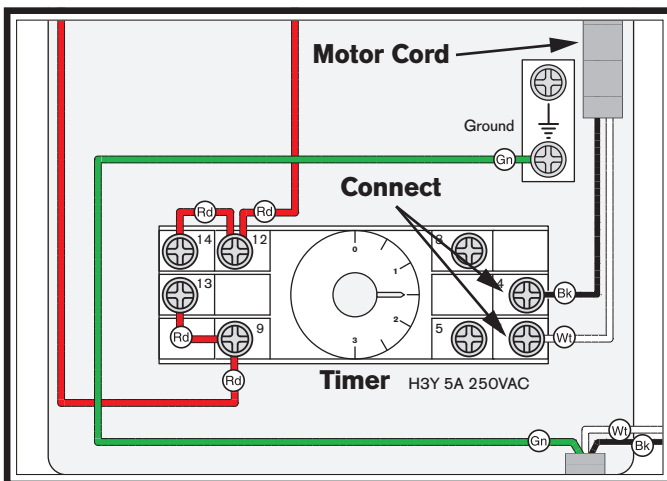

Figure 28. SB1100 filter brush motor connection.
29. Connect terminal ends of motor cord(s) to right terminals of timer inside switch box (see **Figures 28** and **29**).